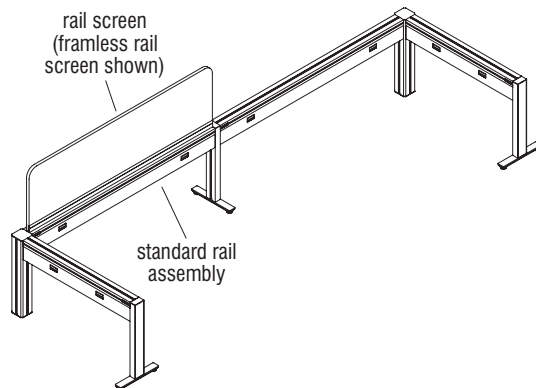

Figure 50
- Rail screens install to a single beam assembly and cannot span multiple rail assemblies (Figures 50 & 51).